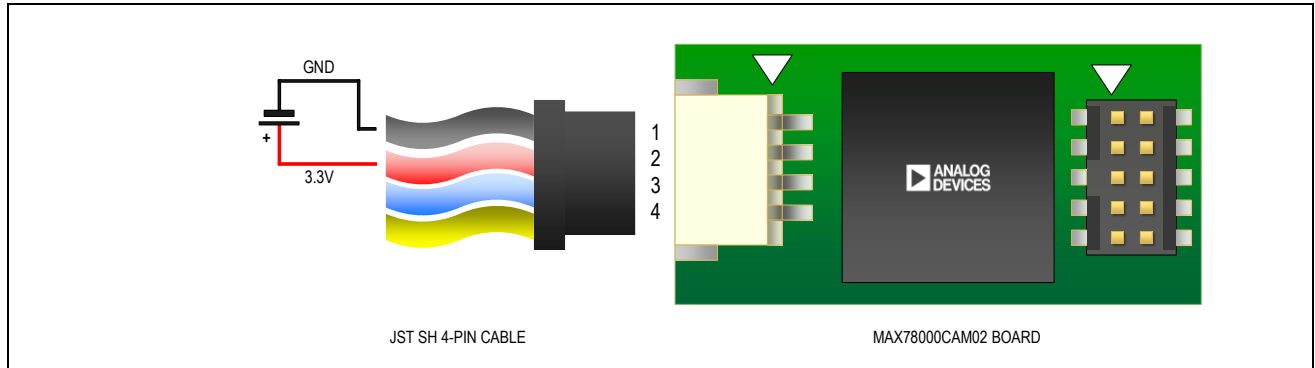

Figure 6. MAX78000CAM02 Power Connection
5. Apply 3.3V DC power to the board by connecting a power supply to the JST SH 4-pin connector (J1) using one of the included cables, as shown in Figure 6. Pin 1 of the JST SH 4-pin connector (J1) is the ground connection and pin 2 is the 3.3V DC input positive terminal.